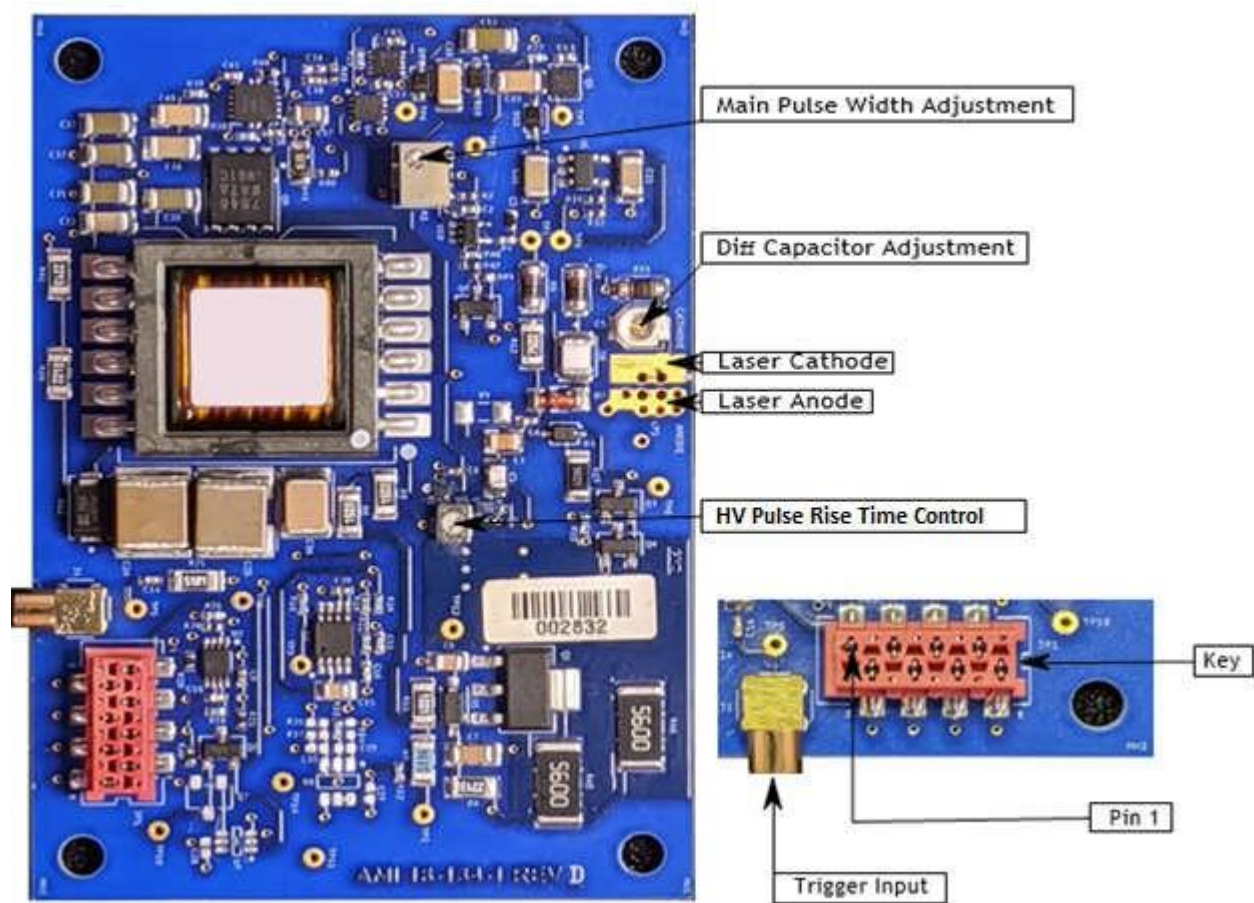

Figure 3.1: Printed Circuit Board
6. While monitoring the test equipment, adjust the pulse controls to obtain desired width and shape. See Fig 3.1